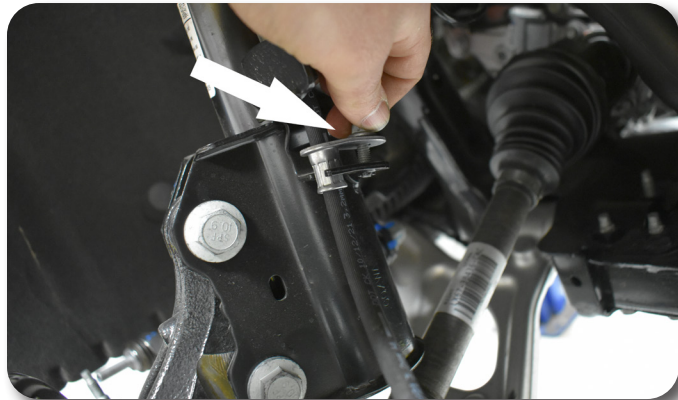

Figure 14
19. Reconnect the brake line bracket to the strut. **Figure 14** Torque to 97 in-lbs.